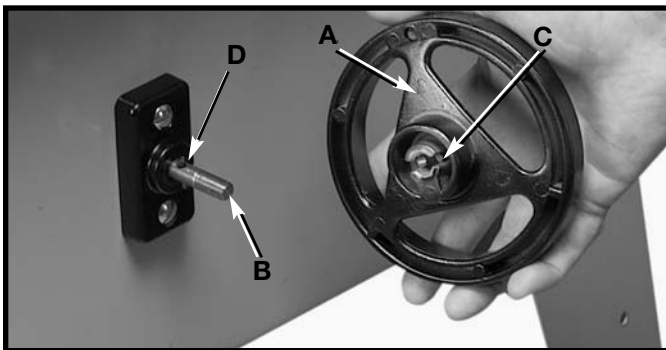

Fig. 9
1. Attach blade tilting handwheel (A) Fig. 9 to shaft (B). Make certain slot (C) in handwheel is engaged with roll pin (D) on the shaft.